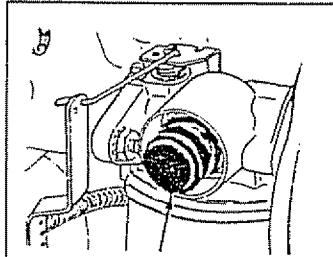

FIG. 15
- Prime the engine by pressing the primer button 5 times. Wait 2 seconds between each prime (Fig. 15).